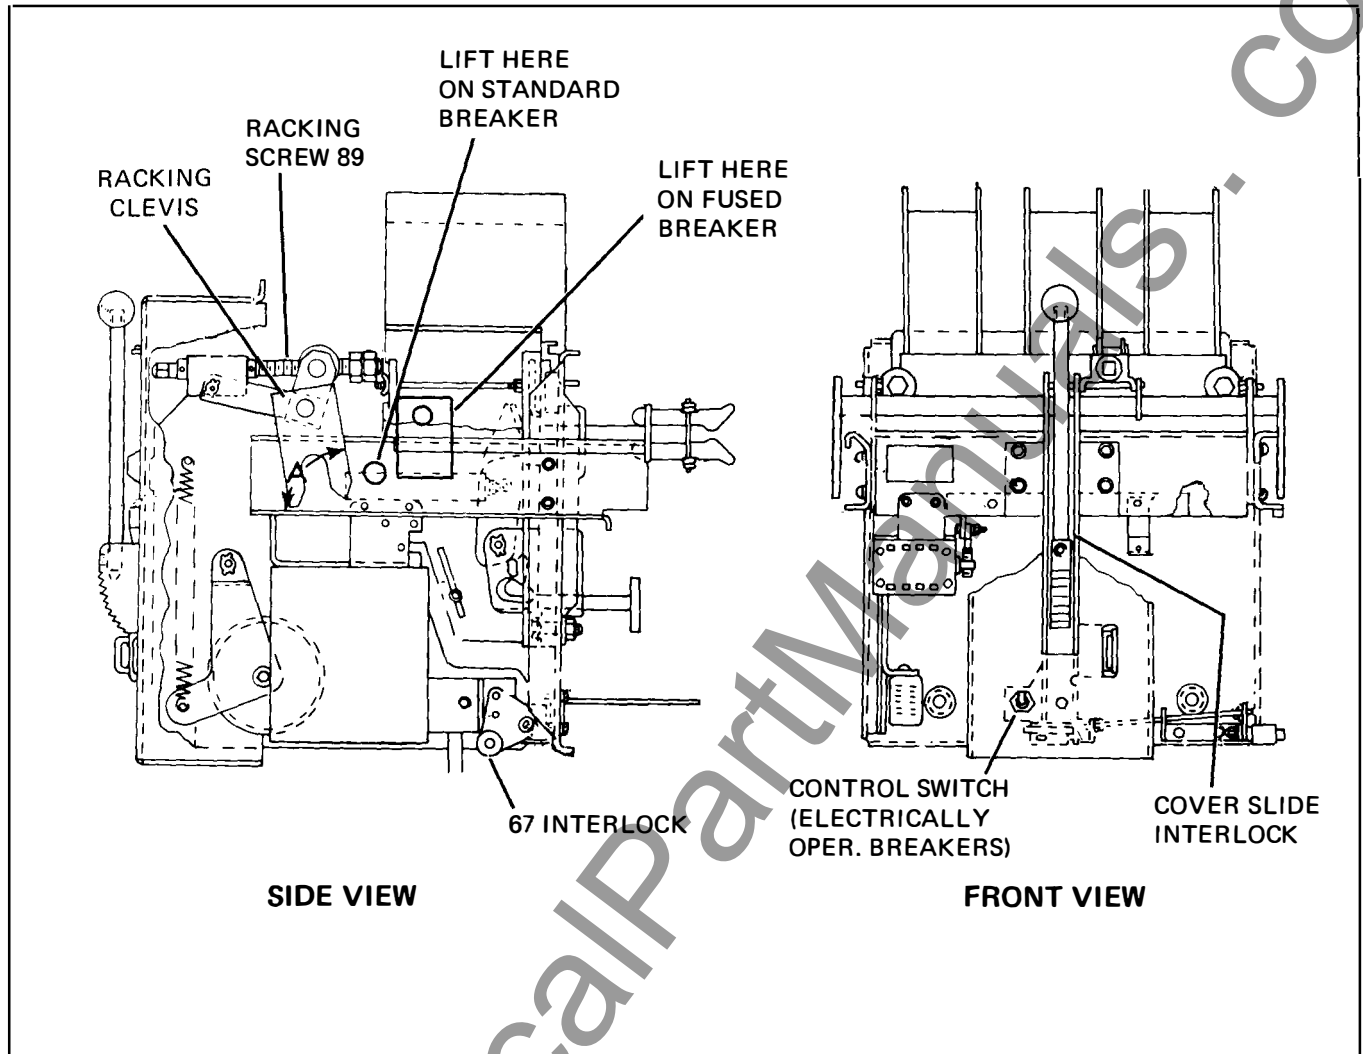

Figure 3A. Typical Racking Mechanism and Drawout Interlock
2. With the racking crank, rotate the racking screw (89) until the racking shaft is in the disconnected position. The clevis can now engage the racking pins in the cubicle. The circuit breaker should now be pushed along the rail into the DISCONNECTED position. Double check that the racking clevis does engage the pins in the cubicle.
3. Counterclockwise rotation of the racking screw will rack the breaker into the TEST position. At the TEST position, the cover slide interlock can be closed, allowing the trip bar to reset and the circuit breaker can be operated. Between the TEST position and the CONNECTED position, interlock IT67 Figure 3A will engage the cubicle interlock cam IT509 Figure 3A and the circuit breaker will be held TRIP-FREE and cannot be closed.
Lifting Bar (Figure 3A)